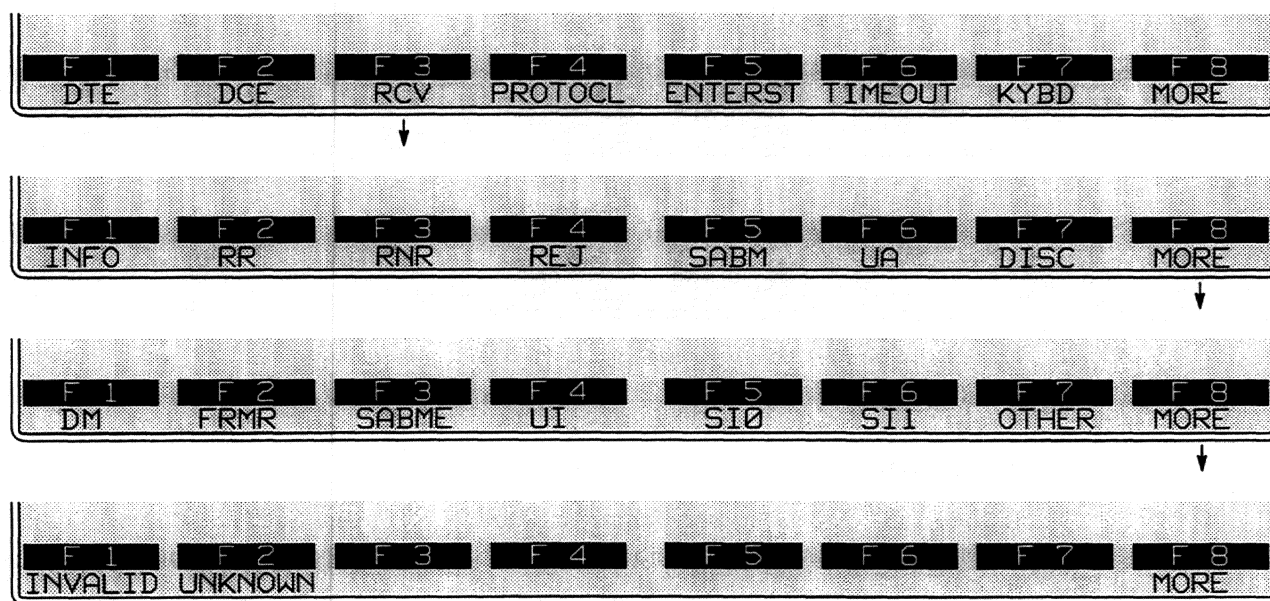

Figure 43-14 *INVALID* and *UNKNOWN* are frame types for RCV conditions.
3. *Type invalid.* RCV conditions can detect frames that are invalid “types”—the control field is missing, for example, or the I-field is missing in an I-frame. The Protocol Spreadsheet entry for this condition is RCV INVALID, and the softkey sequence is illustrated in Figure 43-14.
4. *Type unknown.* A frame may be valid in all respects but have a control field that indicates a nonstandard frame type. Such a frame may be matched by a RCV UNKNOWN condition (Figure 43-14).